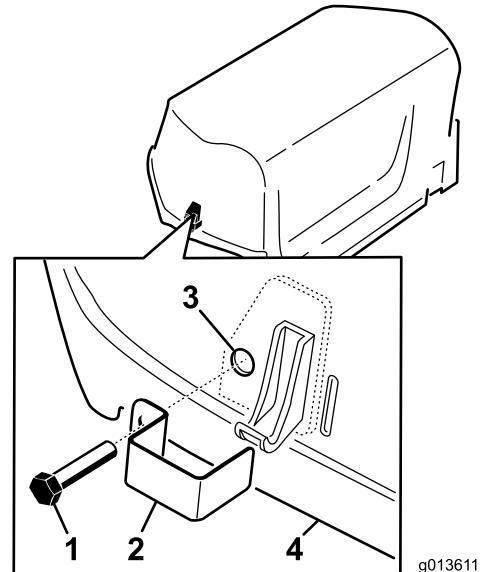

Figure 7
- Using a pliers or adjustable wrench, thread an internal lock washer onto each bolt (1-2 threads) to secure bolt (Figure 7).
- Install a latch lock over the left and right side hood latches with a tap bolt (two total) (Figure 7).